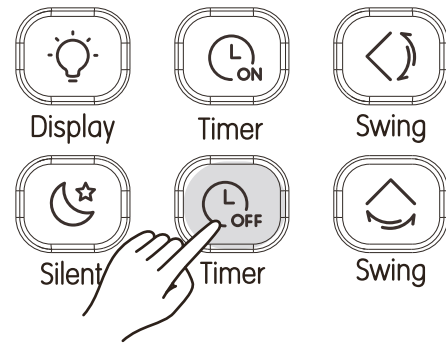

fig. 18
- Press (see "fig. 18"), and the remote remote control will display "Timer Off", and "0.0H" will appear in timer area. Adjust the Timer Off settings now;